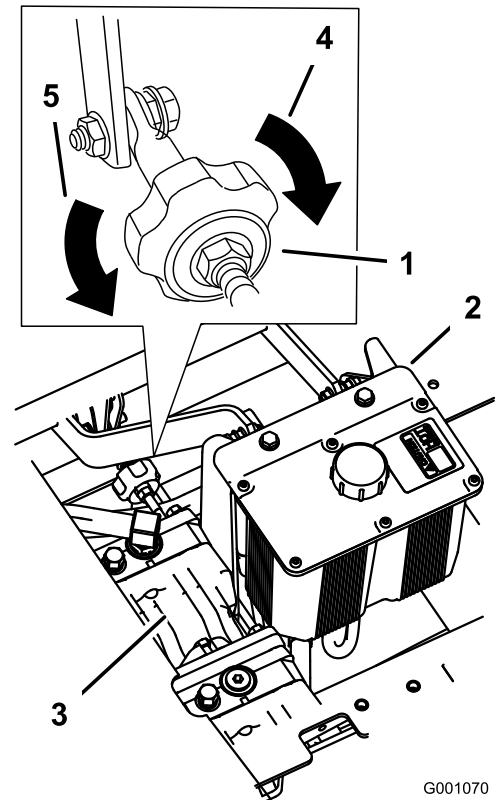

Figure 90
2. Adjust the pump rod length by rotating the knob, in the appropriate direction, until the wheel is still or slightly creeping in reverse (Figure 90).